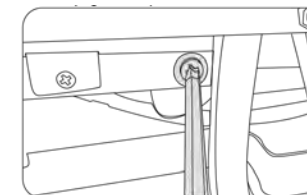

Figure 8
- Tighten the screws on the back-end of the armrest. (Figure 8)